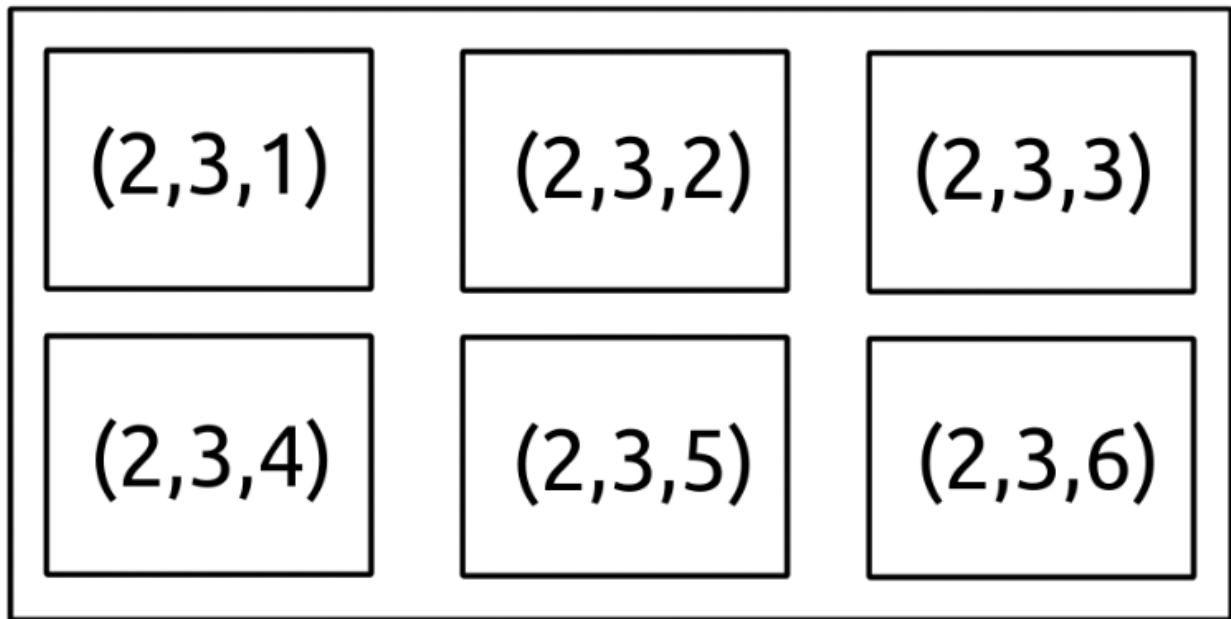

Figure 10.12: Example of how to use the `subplot()` function and what `m`, `n`, and `p` should be.
2. Then think about how you want your plots arranged. It really helps to sketch it out on a little piece of paper (kind of like in figure 10.12) to get a good idea. Let's say for this example we want 2 rows and 3 columns of plots.
The `subplot(m,n,p)` function divides the figure window into `m` \times `n` rectangular plots. The `p` indicates the number of the subplot. The subplots are numbered starting at 1 in the upper left corner and increase in number from left to right. Figure 10.12 is illustrating this. For the plot in the upper left corner, the user would type in: